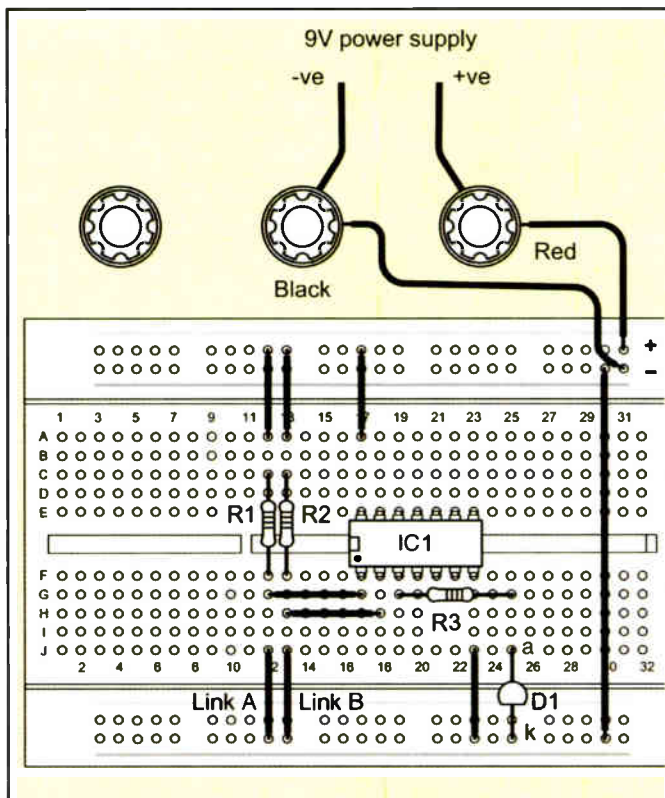
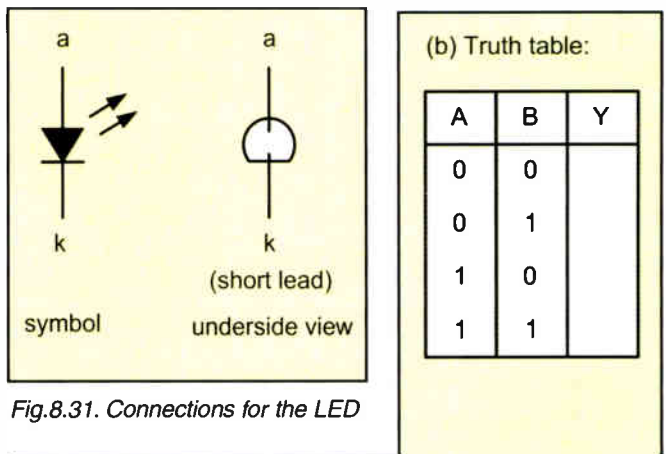

Fig.8.30. Wiring diagram for Practical Investigation 8.1
Fig.8.31. Connections for the LED
**Wiring diagram:** See Fig.8.30 and Fig.8.31